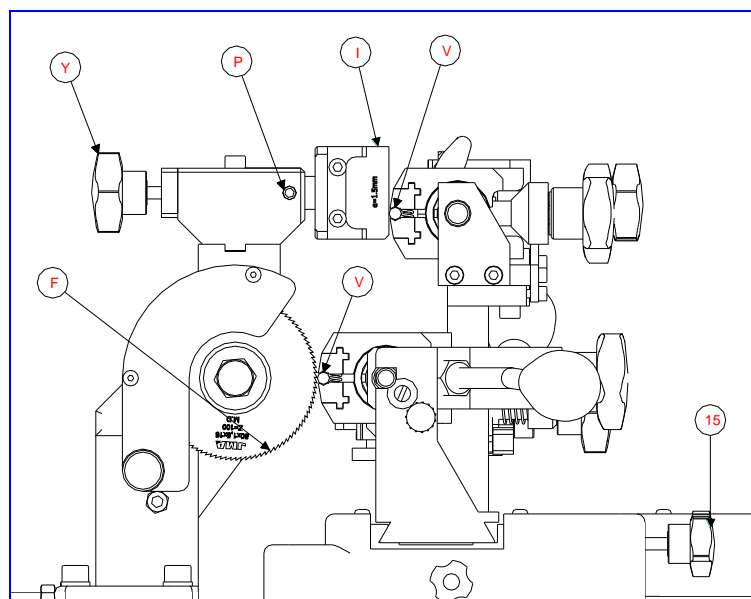

Fig.1
- Undo the knobs (15) and align the first position of the slide (R1) with the reference point (S).
- Put the adjustment rods (V) into the clamps and clamp them by turning the knobs. See Fig.1
- Bring the clamps towards the tracer point (I) and the cutter (F), manually turn the cutter in the opposite direction to the operating direction, until it has completed a full turn so that the adjustment pieces coincide on the tracer point and the cutter.
- Undo the setscrew (P). Turn the knob (Y) until the cutter touches the adjustment rod.
- Secure the position of the tracer point by tightening the blocking setscrew (P).
Undo the screws (T), replace the tracer point and tighten the screws with the help of an allen key. Then check whether the machine is properly adjusted, by following the steps given in section 3.1.1. See Fig.1 and 2.